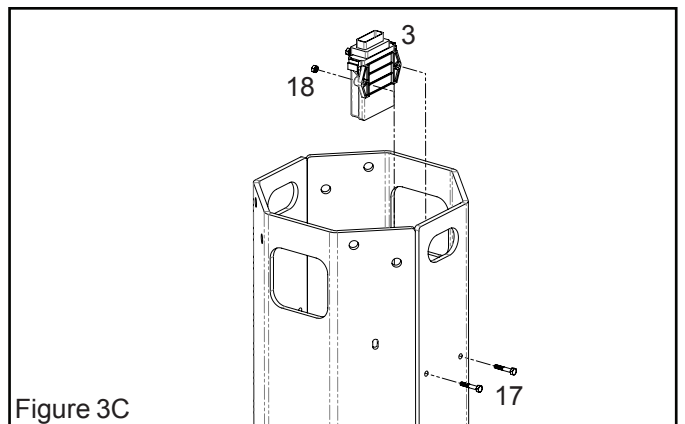

Figure 3C
4 Fasten controller (3) to the bail housing as shown in figure 3C with bolts (17) and nuts (18). The bail housing will have existing holes typically located on the front face of the housing.